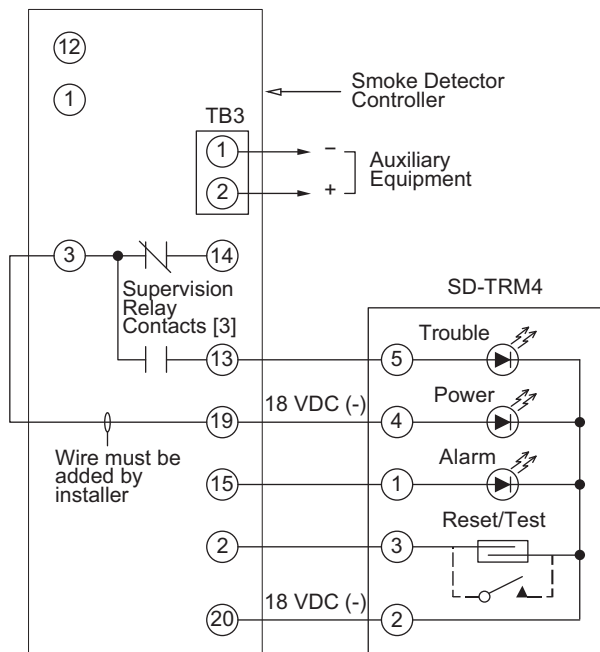

Fig. 44 — Remote Test/Reset Station Connections
The test/reset station dirty sensor test checks the test/reset station's ability to initiate a sensor dirty test and indicate the results. It must be wired to the controller as shown in Fig. 44 and configured to operate the controller's supervision relay. For more information, see "Dirty Sensor Test" on page 35.
1. Verify that the remote test/station is wired as shown in Fig. 44. Repair or replace loose or missing wiring.